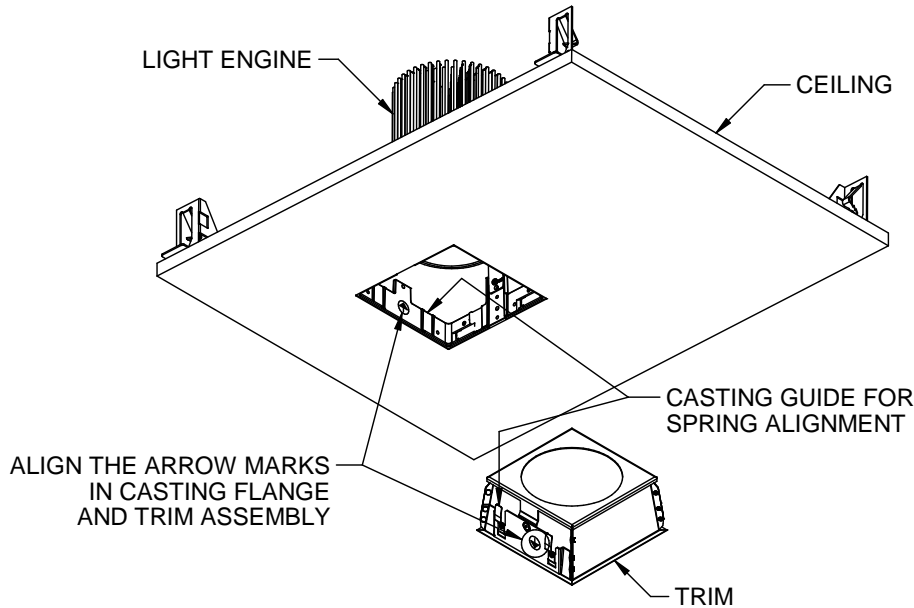

FIG 2.1
2. Install the lower trim assembly by aligning the arrow mark label presented on the inside surface of the fixture module cast housing (below the pole) and lower trim assembly. Insert the springs into the appropriate casting guide for spring alignment and gently push it against the ceiling. FIG 2.1 & 2.2.